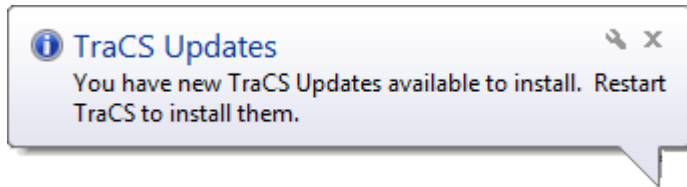

Figure 129. Optional Update Available Window
1. Log in to TraCS. If optional updates are available the **TraCS Update** icon in the notification area displays the “You have new TraCS Updates to install. Restart TraCS to install them.” notification, as shown in Figure 129.